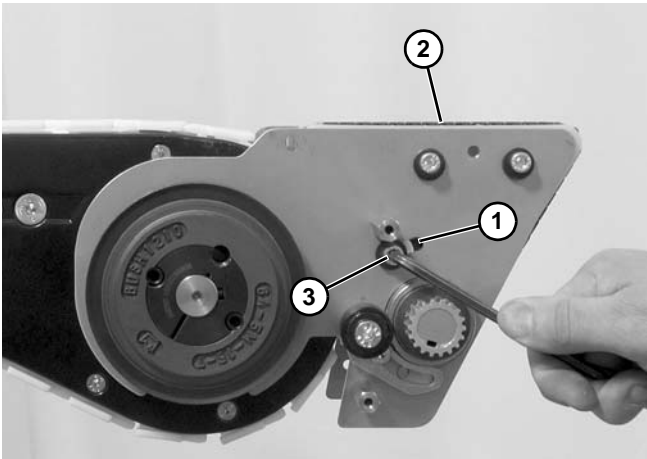

Figure 161
- Slide idler assembly within slot (**Figure 161, item 1**) only enough to remove excess slack from belt (**Figure 161, item 2**). Tighten socket head screws (**Figure 161, item 3**).